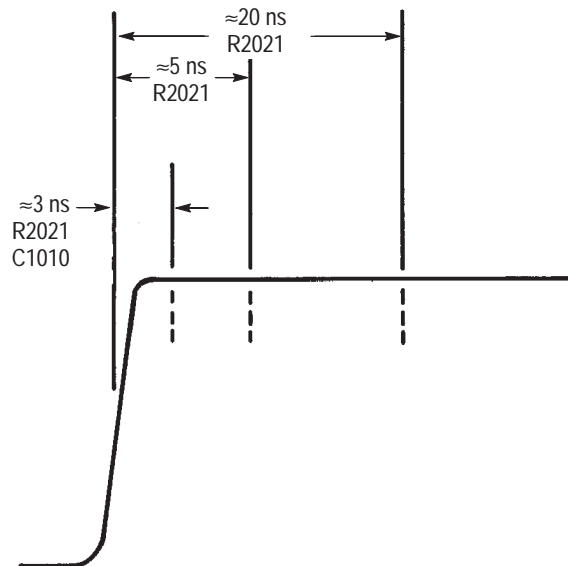

Figure 9: High-frequency compensation, optimizing the waveform
13. Adjust R2020, R2010, and C1010 for the best corner response without ringing. See Figure 9 for the waveform area effected by each adjustment.